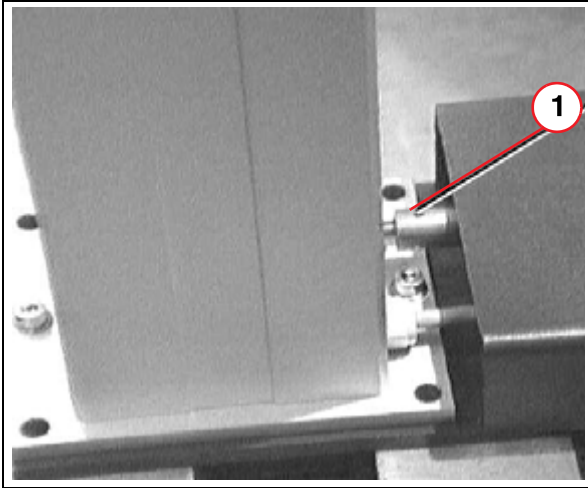
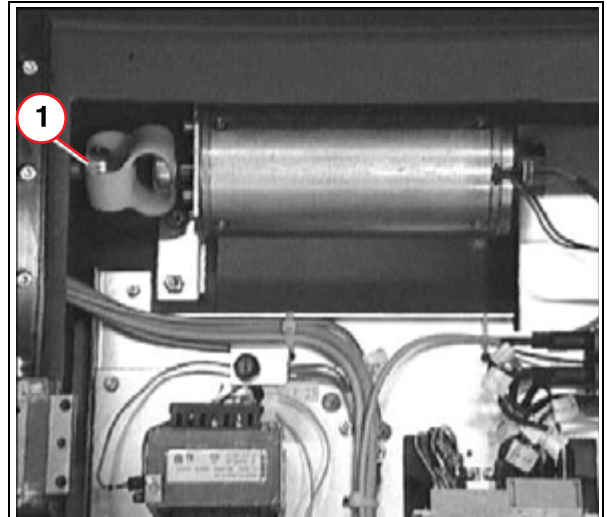

Fig. 24: Allen_screws_A
Fig. 25: Allen_screws_B
- Turn the lifting column drive shaft by hand until the Allen screws of the drive shaft are accessible from above ((Fig. 24 / p. 59)).
- Remove the 2.5 mm Allen set screws ((1/ Fig. 24 / p. 59) and (1/ Fig. 25 / p. 59)).
- Remove the mounting screws on the base of the lifting column ((Fig. 24 / p. 59)) and remove the column.
- Connect the drive shaft with the PVC coupling (Allen screws 2.5 mm) and bolt the motor down ((Fig. 25 / p. 59)).